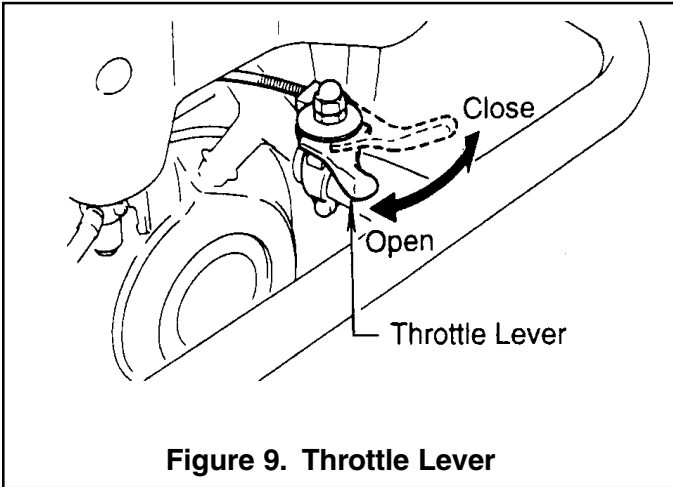

Figure 9. Throttle Lever
1. To start the rammer tamping action, move the throttle lever (Figure 9) quickly from **IDLE** (close) to the **FULL OPEN** position. **DO NOT** move the throttle lever slowly as this may cause damage to the clutch or spring.
1. Move throttle lever quickly from the **FULL OPEN** to **IDLE** position (Figure 9) and run the engine for three minutes at low speed. After the engine **cools**, turn the engine start/stop switch to the **"STOP"** position (Figure 6) until engine comes to a complete stop.